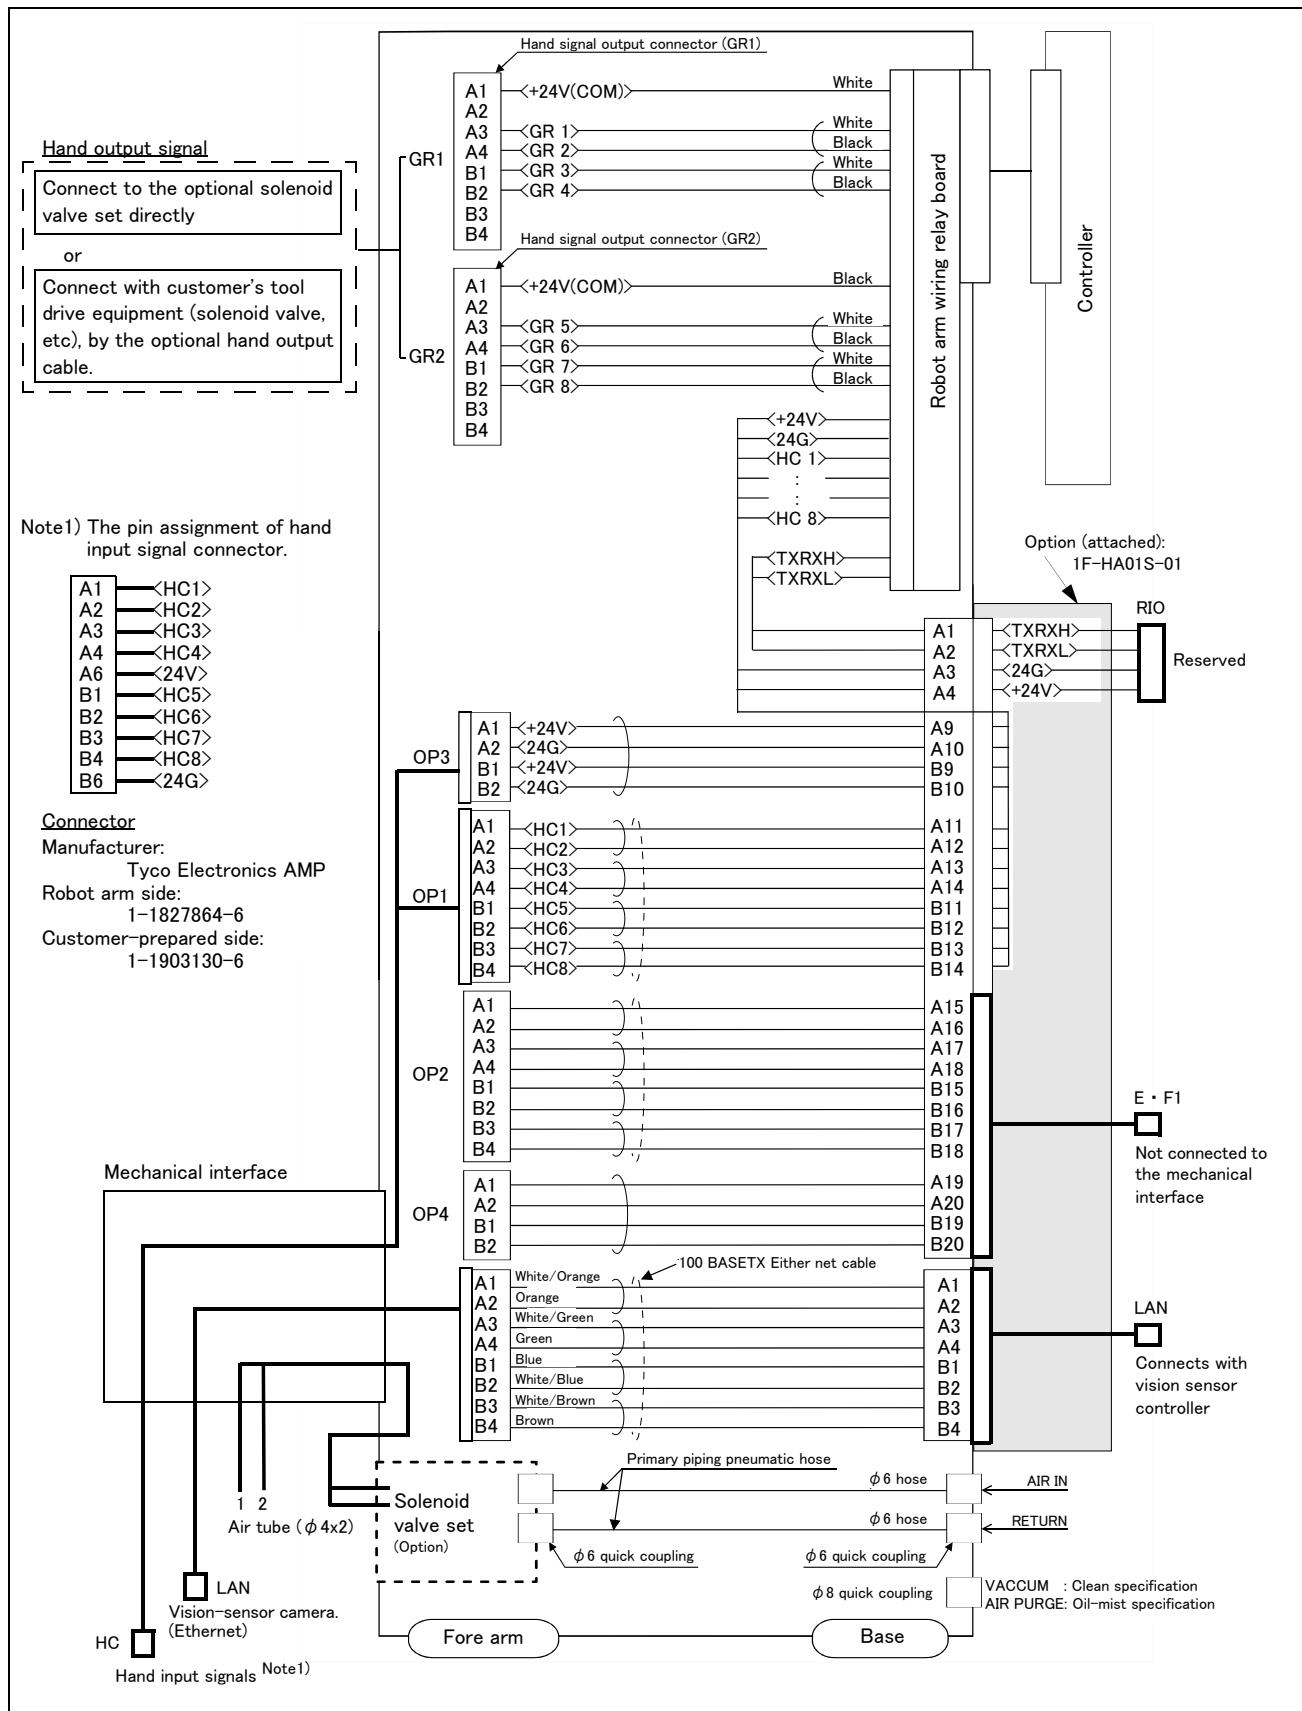

Fig.2-37 : Wiring and piping system diagram for hand and example the solenoid valve installation: RV-4F/7F/13F series SH05
*3) Refer to Fig. 2-37 for pin assignment of the hand input cable (HC).